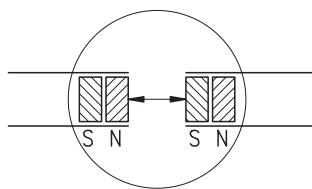

Fig. 14 : Determination of the pole position.
- Check polarity before joining the two parts. Both ends must attract each other (if necessary, use compass needle). In case both ends have the same polarity, shorten one end by a half pole division (fig. 14).